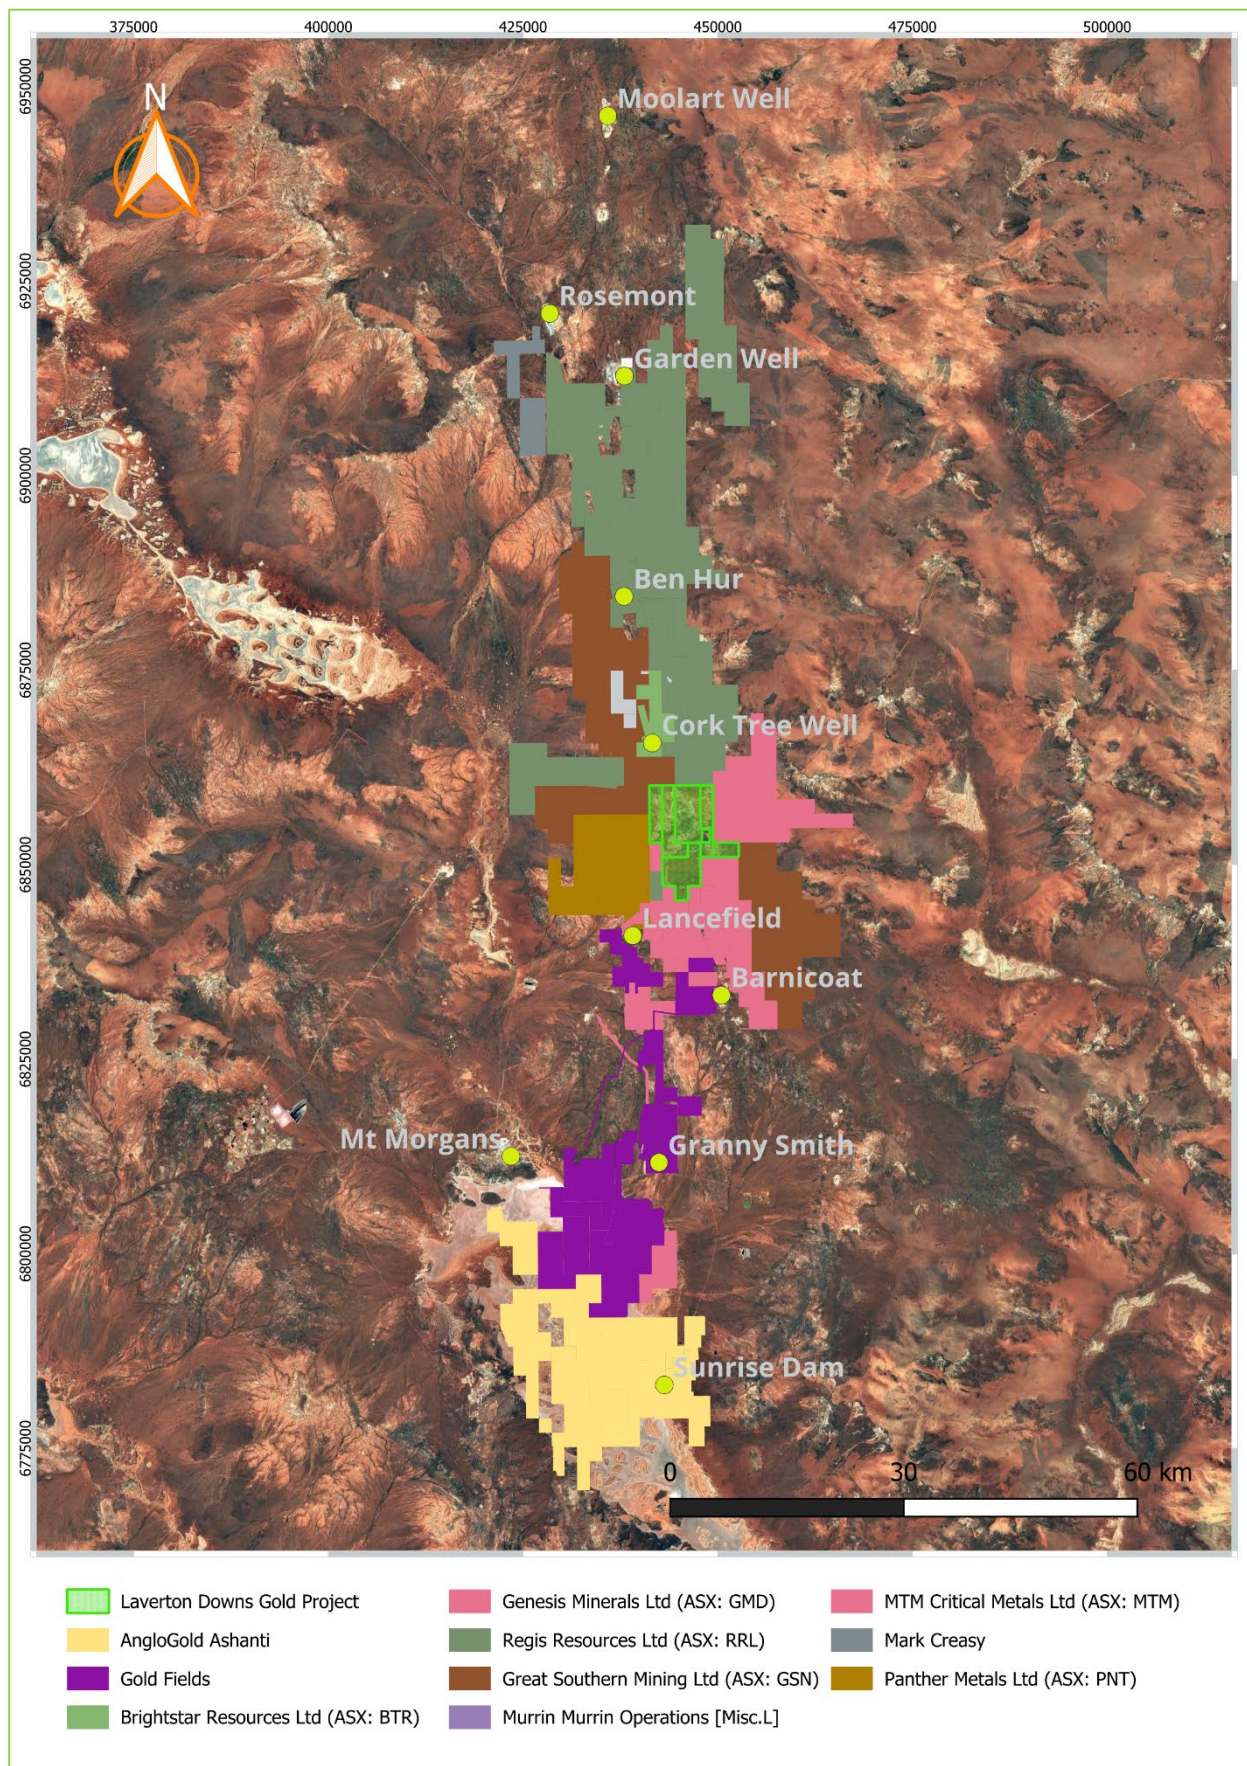

Figure 1: The Laverton Downs Gold Project proximate to other workers and operators, Laverton WA
- LDP covers 6 explorations licenses totalling ~100km² 15km north of Laverton, home to Lancefield, Mt Morgan (Genesis Resources), Sunrise Dam (AngloGold Ashanti), Wallaby/Granny Smith (Goldfields), Moolart Well, Rosemount and Garden Well (Regis Resources) and Cork Tree Well (Brightstar Resources) (refer Figure 1)